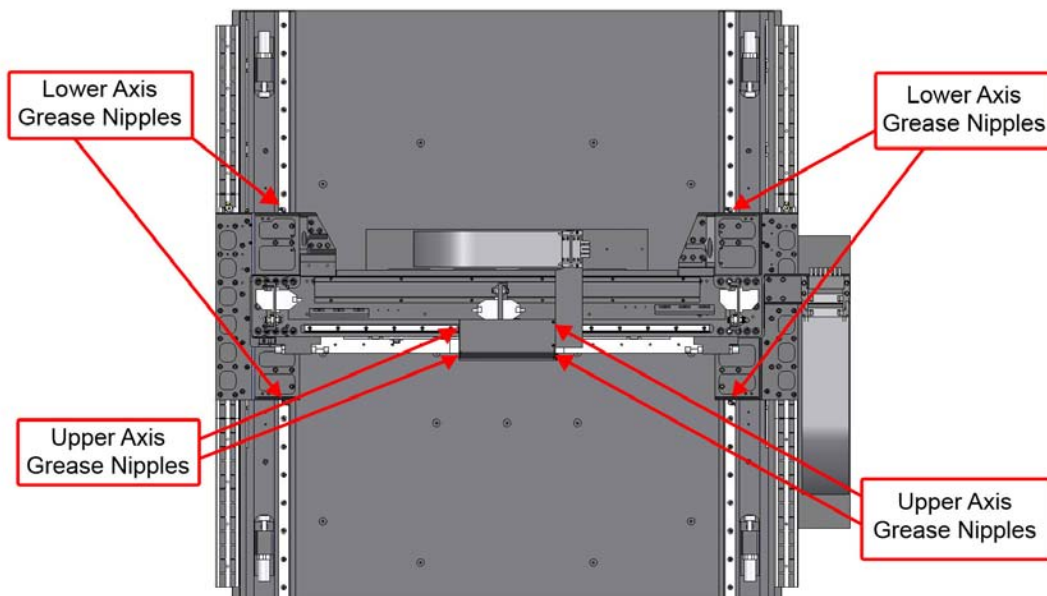

Figure 4-1: Location of Grease Nipples (approximate)
There is one grease nipple per bearing block, for a total of 8 grease points (See Figure 4-1). The grease nipples are type PB1021B for the upper axis and type B-M6F for the lower (supplied by THK). A type N grease gun fitting should be used for the upper axis bearings and type B for the lower axis bearings (also supplied by THK). <http://www.thk.com>.
4. Using a grease gun with the appropriate fittings (see Section 4.2. ) add lubricant into the grease nipples of the bearing blocks. All grease nipples are accessible without removal of any components (total qty. 8, see Figure 4-1). Add lubricant until a small amount can be seen coming out of the bottom of the bearing block. If extra lubricant spills onto adjacent surfaces, it may be wiped off with a clean cloth.